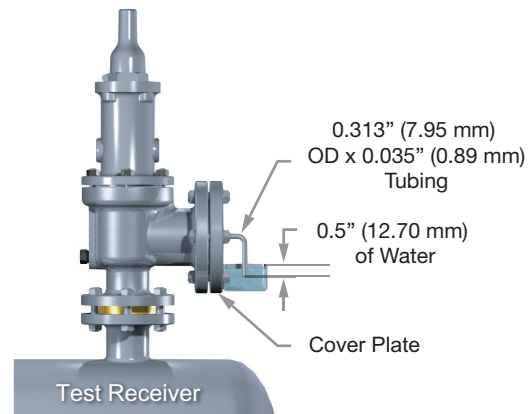

Figure 37: Typical Test Arrangement
General Information: Set up a typical test arrangement for determining seat tightness for SRVs on air or gas service (in accordance with ANSI B147.1/API RP 527) (see Figure 37).
1. With the valve mounted vertically (see Figure 37), determine the leakage rate, in bubbles per minute, with pressure at the SRV inlet held at 90% of the set pressure immediately after popping. For valves set at 50 psig (3.45 barg) or below, hold pressure at 5 psig (0.34 barg) below set point. The test pressure shall be applied for a minimum of 1 minute for valves on inlet sizes through 2" (50.8 mm); 2 minutes for sizes 2.5" (63.5 mm), 3" (76.2 mm) and 4" (101.6 mm), and 5 minutes for the 6" (152.4 mm),